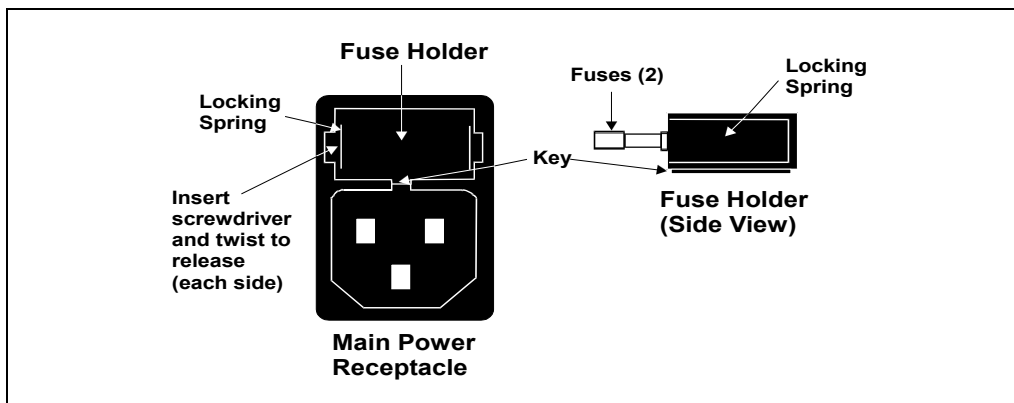

Figure 5-4. Main Power Fuse Holder
4. The fuse holder is part of the main power receptacle (see Figure 5-4). Note the recessed lock on each side of the fuse holder.